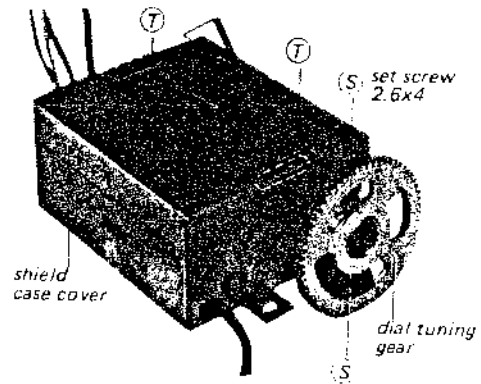

Fig. 2-17
2. Remove the dial-tuning gear by loosening the two set screws (2.6 x 4) marked (S) in Fig. 2-17.
3. Unsolder the two portions of the cover marked (T) in Fig. 2-17 and remove the shield case cover in the direction shown.